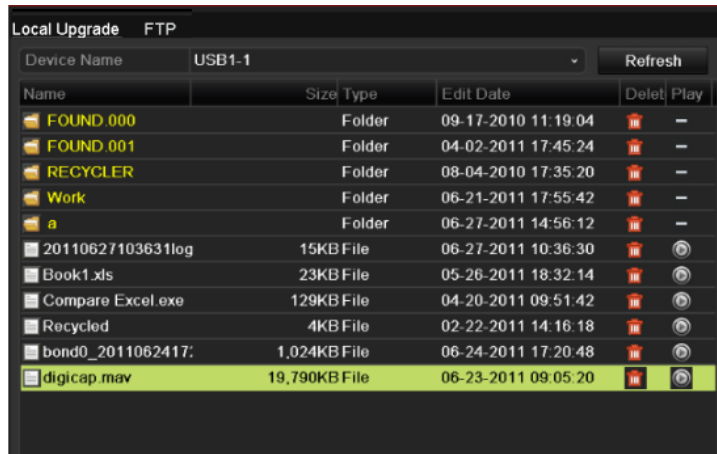

Figure 15. 7 Local Upgrade Interface
3. Click the **Local Upgrade** tab to enter the local upgrade menu, as shown in Figure 15. 7.